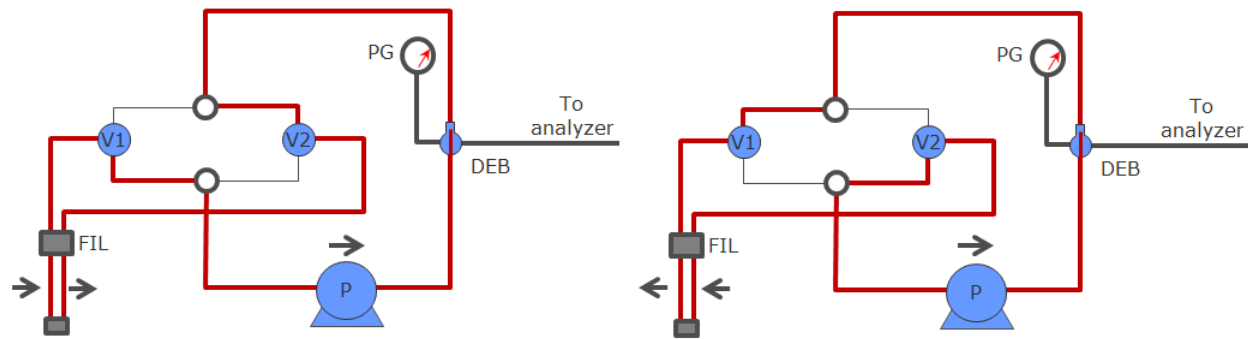

Figure 22: Flow through the self-cleaning filter and its control manifold
The diagram on the left of Figure 22 shows the fluid circulation path with the valves in one position. In this configuration, process liquid enters one filter element through the first valve (V1) under combined process pressure and pump (P) suction, then the filtered liquid passes through a gravity bubble separator (DEB), and back through the second valve (V2) to the second filter element, through which it returns to the process stream. Thus, while one filter element is filtering the sampled stream, the other is being back-flushed by the filtered solution returning to the sample source. A fraction of the filtered stream is removed at the bubble separator to supply the analyzer.
The figure on the right of Figure 22 shows the fluid circulation path with the valves switched to their second positions. In this configuration, sample solution enters the second filter element (which had been back-washed during the first cycle by the returning clean sample solution) and is pumped through the valve (V2), pump (P) and gravity bubble separator (DEB), and is returned to the process via the first valve (V1) and through the first filter element — back-washing it of any filter cake formed in the first cycle.